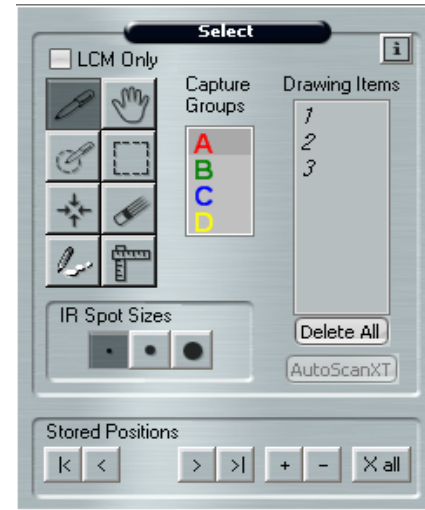

Figure 3 Select tools pane
To view tool tips hover the stylus or mouse over the item of interest on the screen. In the example shown in Figure 3, placing the cursor over the hand displays a message indicating that this tool moves the stage.
- Click the Information button (i) in the upper-right corner of the tool selection pane (see Figure 3 on page 14).